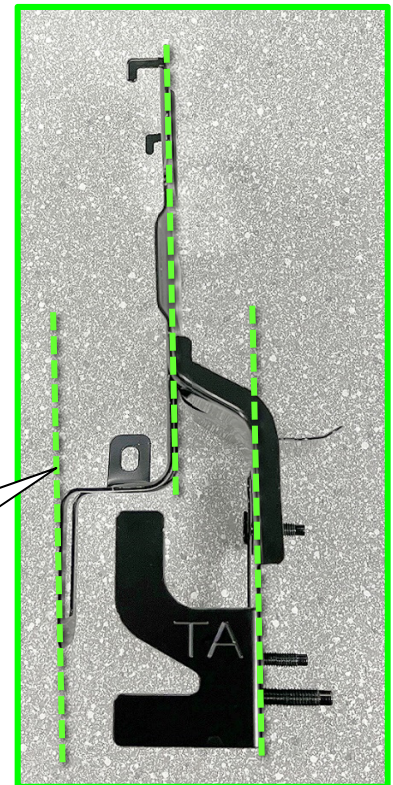

Figure 4
- Figure 4 is a side view of an undamaged distance sensor bracket. The front mounting surface should be parallel with vehicle mounting surfaces.